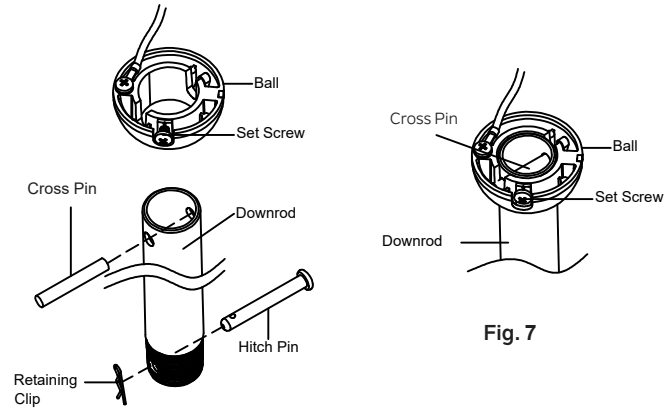

Fig. 6
**Step 5.** Remove the retaining clip and the hitch pin from the ball/downrod assembly. Remove the ball from the ball/downrod assembly by loosening the set screw (do not remove) on the ball, removing the cross pin, and remove the ball from the downrod. (Fig. 6)